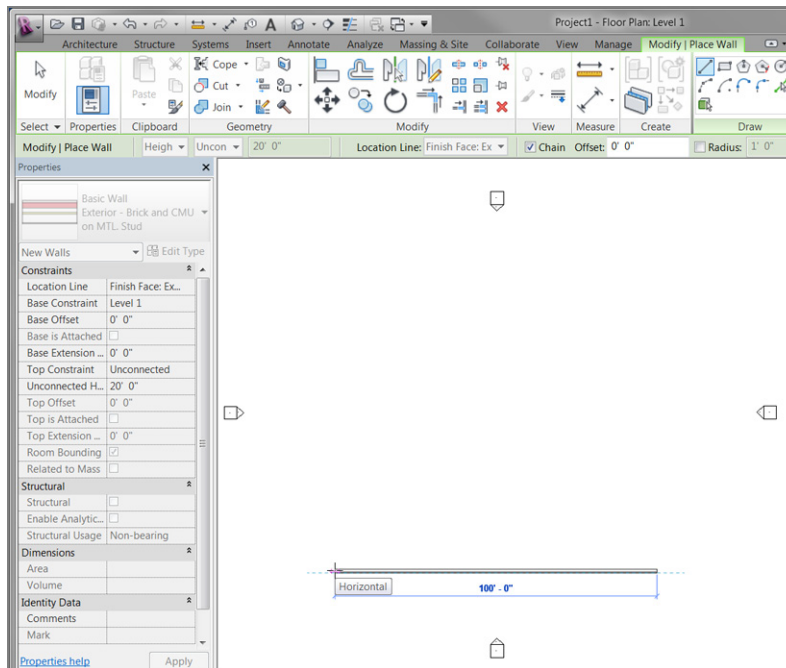

FIGURE 1.19: The procedure for drawing a wall in Revit Architecture
1. With the Wall command still running and the correct wall type selected, position your cursor in a location similar to the illustration in Figure 1.19. Pick a point in the view window.
3. Also notice the blue dimension extending from the first point to the last point. Although dimensions can't be typed over, this type of dimension is a temporary dimension for you to use as you place items. Type 100' (30000mm), and press the Enter key. (Notice that you didn't need to type the foot mark (') or mm. Revit thinks in terms of feet or millimeters. The wall is now 100' (30000mm) long (see Figure 1.19).